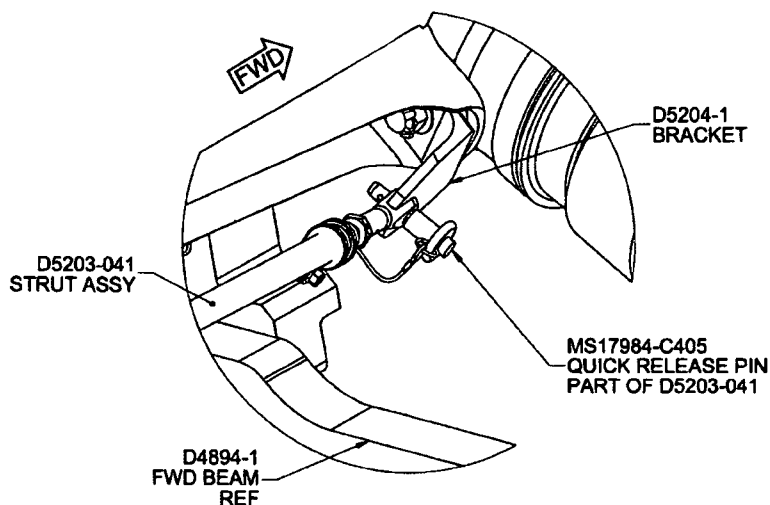

FIGURE 2. D5204-1 BRACKET INSTALLATION
- 3.3 Install D5203-041 Strut Assy onto D5204-1 Bracket and D5205-1 Bracket by connecting 2x MS17984-C405 Quick Release Pins as shown in Figures 2 and 3. Make adjustments to the AN665-34R threaded clevises and lock with NAS509-4C jam nuts. Secure the NAS509-4C jam nuts using lock wire per AC 14.13 or MS33540. After adjustment, use lockwire in the hole of the AN665-34R clevises to check for proper engagement of threads. It is acceptable to flip MS17984-C405 Quick Release Pin orientation as shown in Figures 2 and 3 to facilitate for suitable D5203-041 Strut Assy installation.